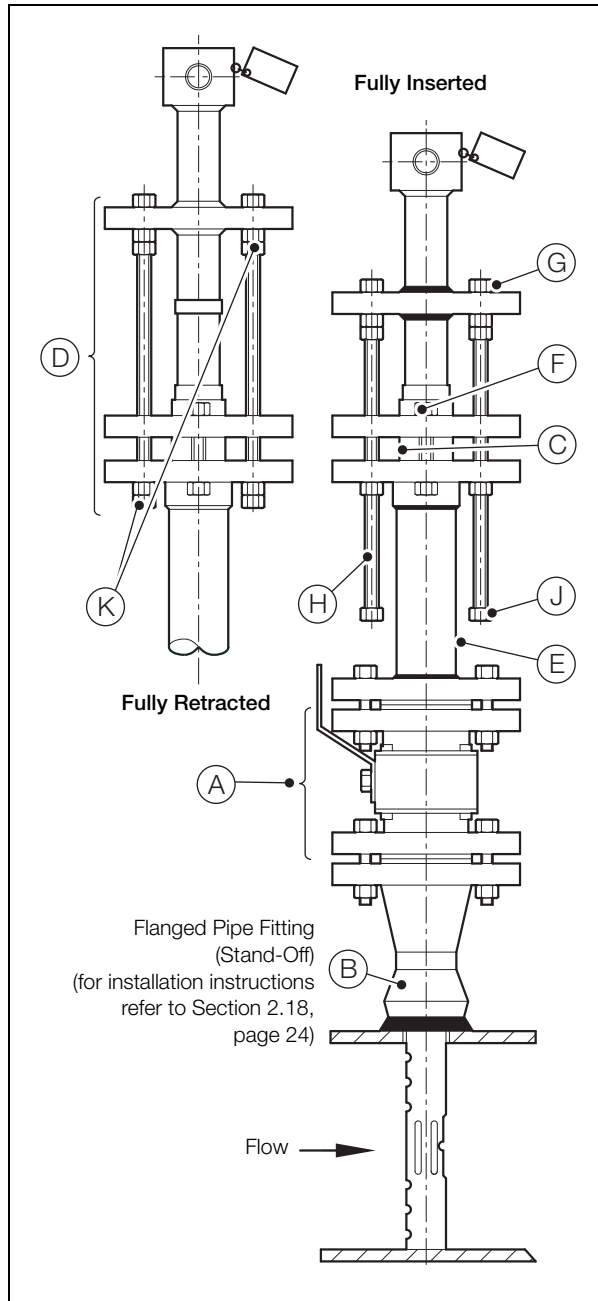

Fig. 2.14 Models H611, H711 and H811 Installation
2. Referring to Fig. 2.14:
- a. Fit isolation valve (A) to flanged pipe fitting (stand-off) (B).
- b. Attach hot-tap drilling equipment to isolation valve (A) in accordance with the manufacturer's instructions.